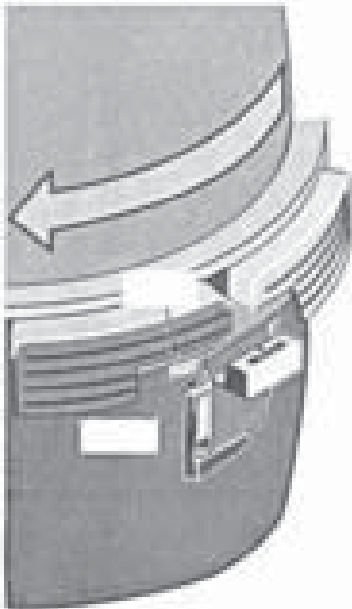

Figure 3
1. Ensure that Posi-Ring™ is securely locked in place by rotating ring CLOCKWISE until one of the ring tabs is captured by the safety latch. See Figure 3.
- D. Rotate the Posi-Ring™ clockwise until it locks behind the safety latch (see Figure 3).